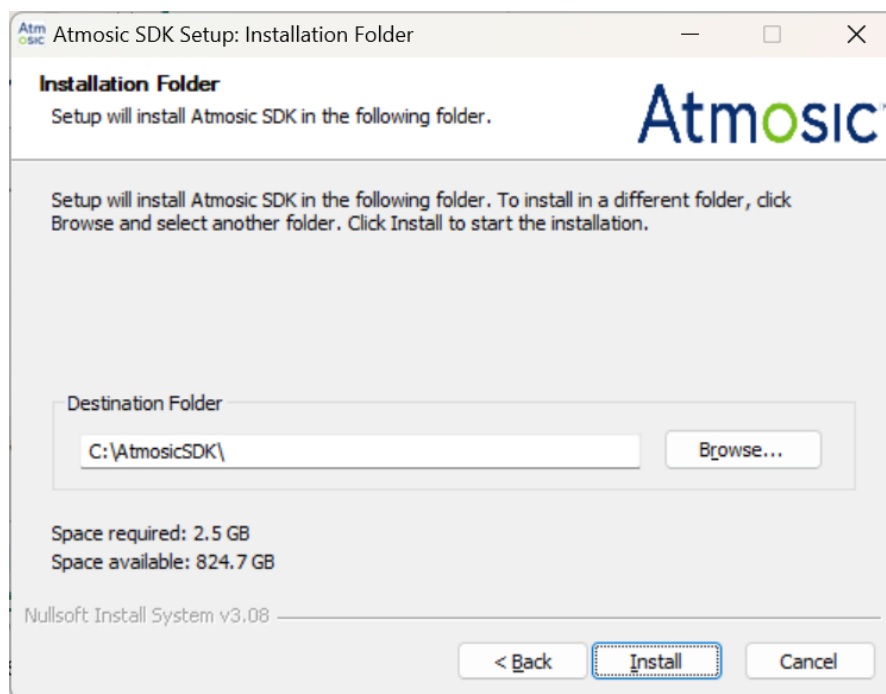

Figure 3 - SDK Installation Folder
- Figure 3 - SDK Setup Directory
The Atmosic SDK will occupy 2.5 GB of disk space and will be located in the C:\AtmosicSDK\ folder, see Figure 3. Please make sure the disk space is enough before installing the Atmosic SDK. Subsequently, click the Install button to continue.